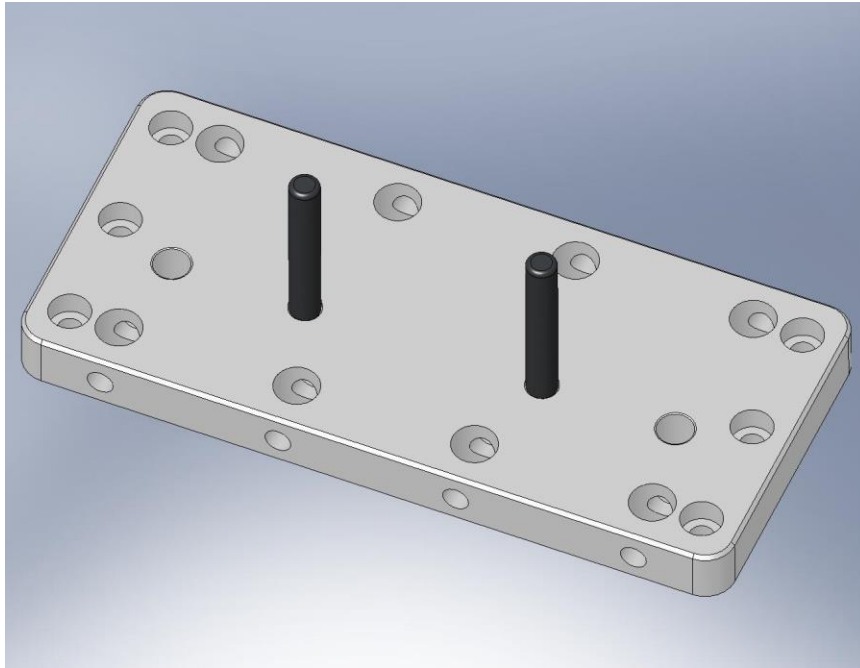

Figure 3.9. Dowel pins pressed into Keel Wall (D071063). Note orientation of counterbores on side mounting holes.
- Insert Heli-Coils in (3) **Rib, Rad, GS-13 Out 1** plates (D071055).
- Insert Heli-Coils in (6) **Keel Walls** (D071063).
- Press (2) 1/2"x4.0" dowel pins into each of (6) **Keel Walls**, as shown in Figure 3.9. Pins should come flush with back surface on **Wall**. This completes the **Keel Wall Assembly** (D071425).